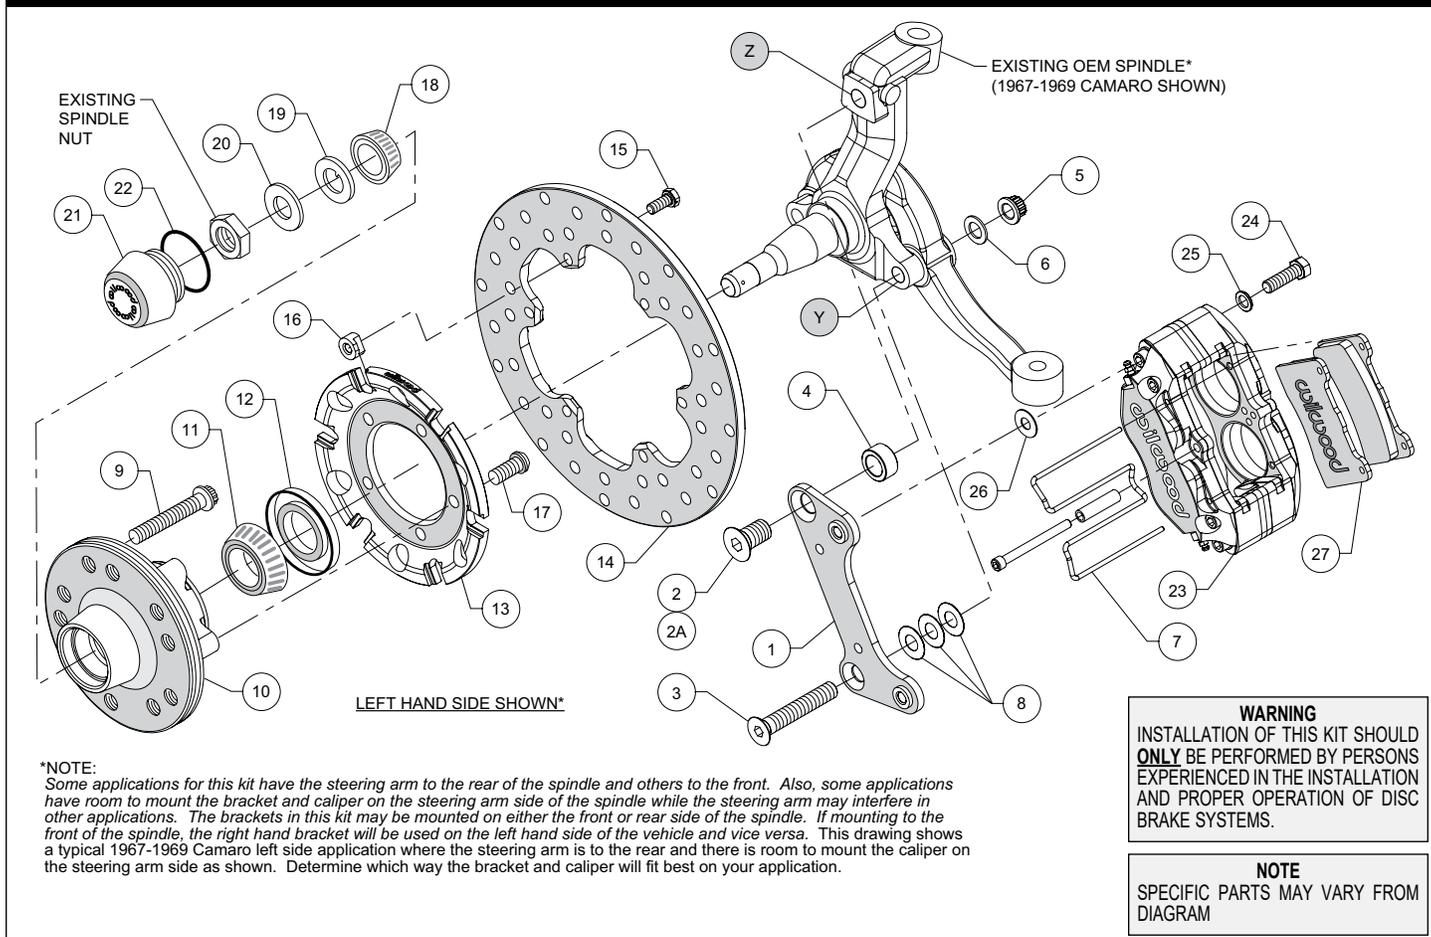
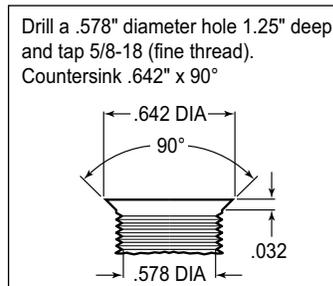
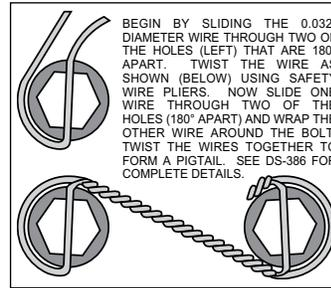
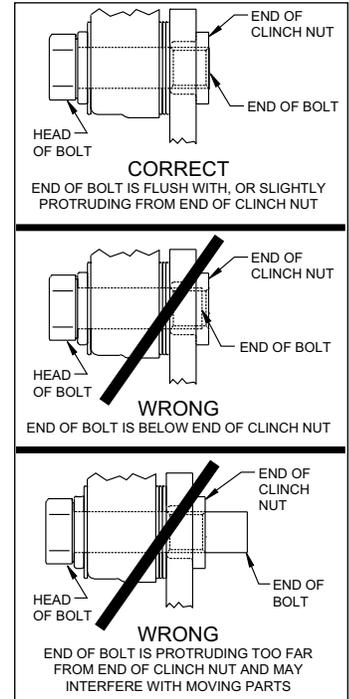

Figure 1. Typical Installation Configuration
Figure 3. Drill and Tap Detail
Figure 4. Safety Wire Diagram
Figure 5. Clinch Nut Engagement Diagram
**NOTE:** Numbers in parenthesis refer to the parts list and Figure 1 on the preceding pages.
**CAUTION:** All mounting bolts must fully engage clinch nuts. Be sure to check that all bolts are either flush or protruding through flanged side of clinch nut after shimming, Figure 5.
•**NOTE:** Some applications for this kit have the steering arm to the rear of the spindle and others to the front. Also, some applications have room to mount the bracket and caliper on the steering arm side of the spindle while the steering arm may interfere in other applications. The brackets in this kit may be mounted on either the front or rear side of the spindle. If mounting to the front of the spindle, the right hand bracket will be used on the left hand side of the vehicle and vice versa. Figure 1 shows a typical 1967-1969 Camaro left side application where the steering arm is to the rear and there is room to mount the caliper on the steering arm side as shown. Determine which way the bracket and caliper will fit best on your application.
•**NOTE:** Some spindles in this year range may require the following modifications (reference Figure 1 and Figure 3): Top anchor pin hole (Z) must be drilled and tapped to the dimensions as outlined in Figure 3. The lower bolt hole (Y) in the spindle used to mount the new caliper bracket, and the mating steering arm hole, must be enlarged to .50" by drilling. It is recommended these modifications be performed by a qualified machinist.
•Install wheel studs (9) into the hub (10), Photo 1. Torque to 77 ft-lb.
- Pack the large inner bearing cone (11) with high temperature disc brake bearing grease (available from your local auto parts store) and install into the backside of the hub (10), Photo 2.
- Install the grease seal (12) by pressing into the backside of the hub (10), flush with the end of the hub, Photo 2.
- Orient the rotor (14) and the rotor adapter (13) as shown in Figure 1 and Photo 3. Attach the rotor to the adapter using bolts (15) and T-nuts (16). Apply red *Loctite*® 271 to the bolt threads and torque to 220 **in-lb** using a criss-cross pattern. Safety wire bolts using standard 0.032 inch diameter stainless steel safety wire as shown in Figure 4. Refer to Wilwood's data sheet DS-386 (available at [www.wilwood.com/Pdf/DataSheets/ds386.pdf](http://www.wilwood.com/Pdf/DataSheets/ds386.pdf)) for complete safety wire installation instructions.
- Mount the adapter/rotor assembly (13 and 14) to the hub (10) using bolts (17), as shown in Figure 1 and Photo 4. Using an alternating sequence, apply red *Loctite*® 271 to the threads, and torque to 45 ft-lb.
- Disc Brake Spindle Application Only:** Follow the instructions below, but instead use bolt (2A), and spacer (4) in the upper bolt hole location, Figure 1.
- Orient the caliper mounting bracket (1) as shown in Figure 1 and Photo 5, and install using bottom bolt (3), washer (6), and nut (5), Figure 1. Initially place three .032" thick shims (8) between the bracket and spindle. Install the upper bolt (2). Temporarily tighten bolts. **NOTE:** *The bracket must fit squarely against the mounting surfaces on the spindle.* Inspect for interference from casting irregularities, machining ridges, burrs, etc. Temporarily install the new hub and rotor assembly. Check that the bracket is aligned parallel to the rotor, Photo 6. If not, adjust by adding or subtracting shims (8) on the lower bolt between the bracket and spindle, Figure 1. Once the bracket alignment is correct, remove the upper bolt (2 or 2A), apply red *Loctite*® 271 to the bolt threads, and torque to 120 ft-lb. Torque the lower lock nut to 65 ft-lb.
- Pack the small outer bearing cone (18) with high temperature disc brake bearing grease and install into hub (10). Final install the hub/rotor assembly onto the spindle. Secure using spindle washer (19) and OEM spindle nut, Photo 7. Adjust bearings per OEM specifications. Install saved OEM nut lock (if any) and a new cotter pin (not included). **NOTE:** *Because of a tolerance variation among spindles, it may be necessary to install a shim washer (20) between the spindle washer (19) and the spindle nut if the spindle nut will not tighten down all the way.*
- Screw dust cap (21) into hub (10), Photo 8. Friction created by the o-ring (22) on the dust cap keeps it from unscrewing. **NOTE:** *The O.D. of the existing OEM spindle washer may be larger than the I.D. of the dust cap not allowing it to seat against the hub face. Therefore, use the spindle washer (19) supplied with the kit instead of the OEM washer.*
- NOTE:** *Please reference the caution statement at the beginning of the assembly instructions.* Mount the caliper (23) onto the caliper mounting bracket (1) using bolts (24) and washers (25), as
shown in Figure 1. Initially place one .035" thick shim (26) on each bolt between the caliper and the bracket, Photo 9. Temporarily tighten the mounting bolts and view the rotor (14) through the top opening of the caliper. The rotor should be centered in the caliper, Photo 10. If not, adjust by adding or subtracting shims (26) between the bracket and the caliper. Always use the same amount of shims on each of the two mounting bolts. **NOTE:** The end of each bolt must be flush with or slightly protruding from the head of the clinch nut, as shown in Figure 5. If necessary place spare shims (26) between washer (25) and caliper mounting ear to achieve the proper clinch nut engagement. Once the caliper alignment and clinch nut engagement are correct, remove the bolts one at a time, apply red *Loctite*® 271 to bolt threads, and torque to 40 ft-lb. For an added measure of security, the bolts may be safety wired using standard 0.032 inch diameter stainless steel safety wire as shown in Figure 4. Refer to Wilwood's data sheet DS-386 (available at [www.wilwood.com/Pdf/DataSheets/ds386.pdf](http://www.wilwood.com/Pdf/DataSheets/ds386.pdf)) for complete safety wire installation instructions.